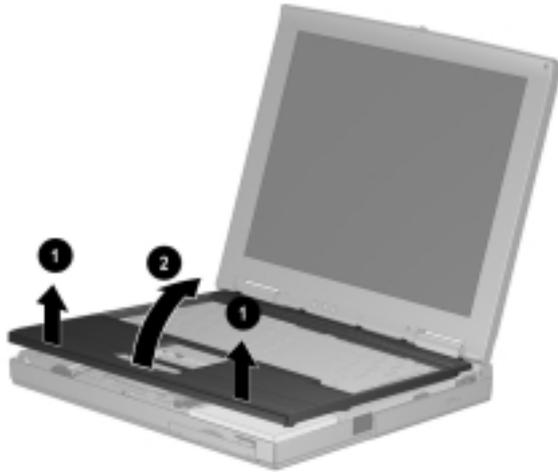

Figure 5-16. *Removing the Top Cover*
6. Lift up the front edge of the top cover ❶ and swing it toward the back of the computer ❷ (Figure 5-16).